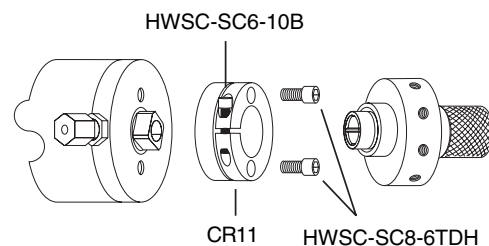

Figure 1: Closemount valve removal
#### Closemount valve (Figure 1)
5. Replace the valve mounting hardware (**Figure 1 or 2**) and slide the valve or standoff into the clamp ring, making sure that the square hole in the valve coupling or in the end of the standoff driveshaft is fully engaged by the square of the actuator drive shaft. Tighten the clamp ring screw and reinstall the air fittings and supply lines.